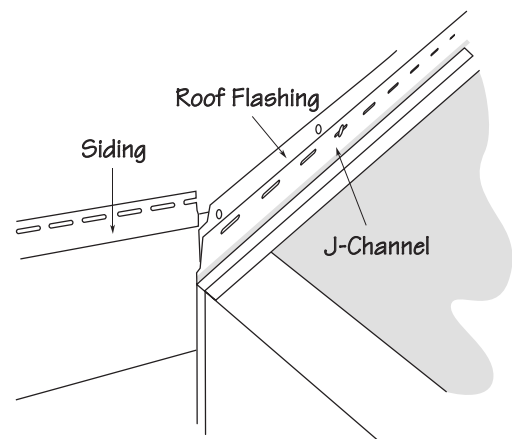

Figure 41.
- Cut the next piece of siding, making sure the vertical lap falls behind the roof flashing and roof J-channel (Fig. 41).